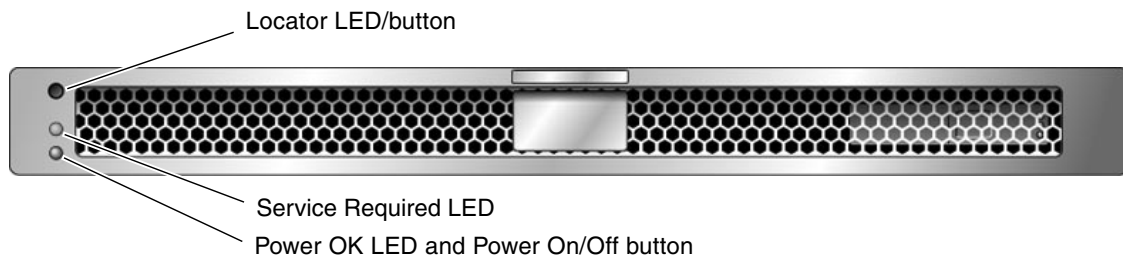
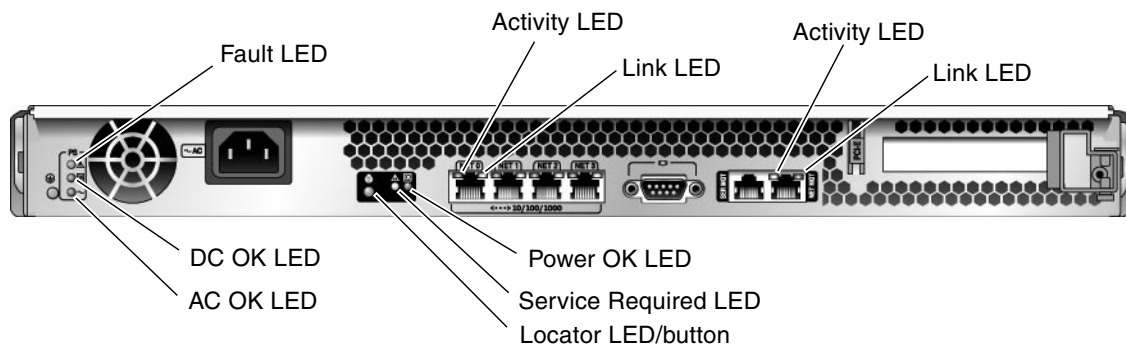

FIGURE 3-2 LEDs on the Server Front Panel
FIGURE 3-3 LEDs on the Server Rear Panel
- Front and rear panel LEDs (FIGURE 3-2, FIGURE 3-3, and TABLE 3-2)
- Power supply LEDs (FIGURE 3-3 and TABLE 3-3)